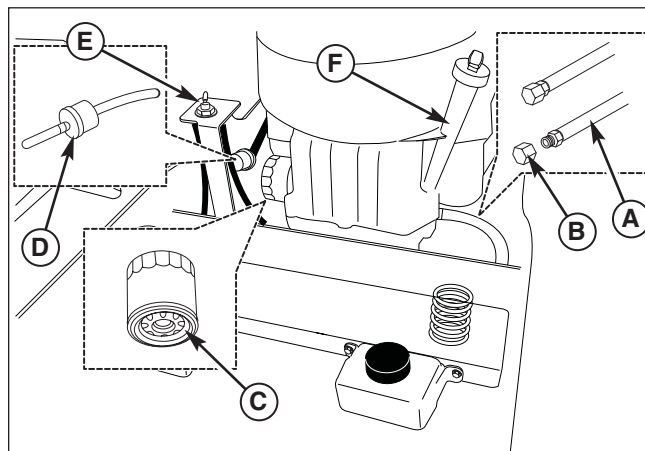

Figure 19. Engine Oil Drain (Briggs & Stratton shown)
3. Using pliers, open and slide the hose clamps from the fuel filter (D, Figure 19).
2. **Briggs & Stratton Models:** Locate the oil drain hose (A, Figure 19) on the left side of the engine and route the oil drain hose over the rear of the engine deck.
3. Place a small pan under the oil drain hose to catch the oil. Using the appropriate tools, remove the cap (B) from the oil drain hose (A) and drain the engine oil into the pan.
6. **Briggs & Stratton Models:** Remove the engine oil dipstick (F) that is located on the left side of the engine and refill with new oil (Refer to the engine operator's manual for oil recommendations.)